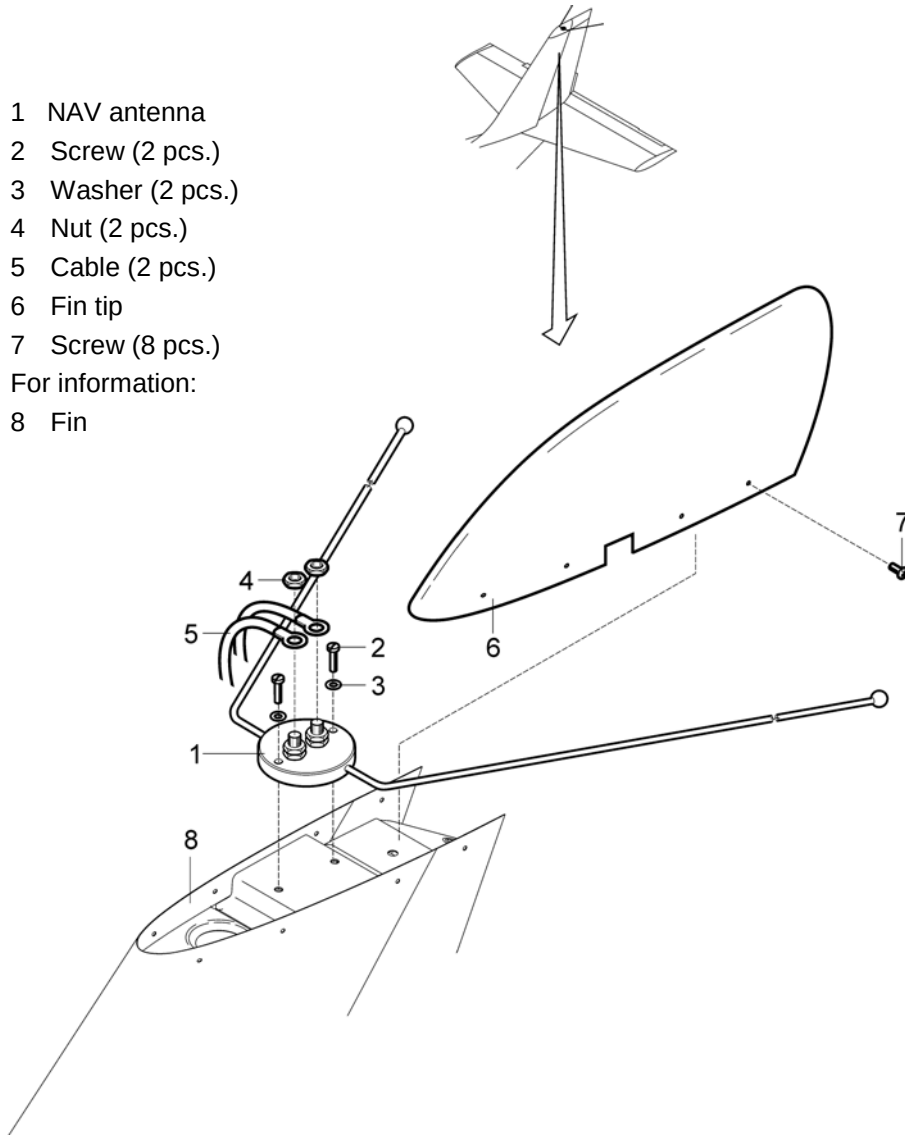

Fig. 12.3.23-1: NAV antenna removal / installation
- (b) Unscrew the screws (7, Fig. 12.3.23-1) and remove the fin tip (6).
- (c) Remove the nuts (4) and disconnect the cables (5) from antenna studs.
- (d) Unscrew the screws (2) with the washers (3) and remove the antenna (1).
- (a) Place the antenna (1, Fig. 12.3.23-1) on the bracket and fasten it by means of the screws (2) with the washers (3).
- (b) Connect the cables (5) to the antenna studs; screw and fasten the nuts (4).
- (c) Place the fin tip (6) on the fin (8) and fasten it by means of the screws (7).